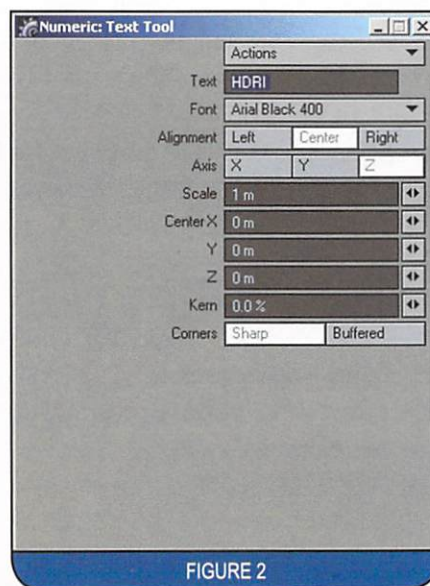

FIGURE 2
- 7) Type the desired text in the "Text" field. See Figure 2.